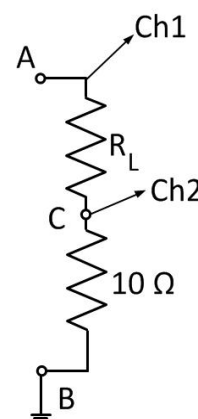

Fig.3
2. To measure the current through load R_L using CRO, a small resistance $10\ \Omega$ is connected in series as shown in Fig. 3 and measure the voltage drop across terminals C-B (Ch2). The voltage drop across terminals A-B is to be approximated for the voltage drop across the load R_L .